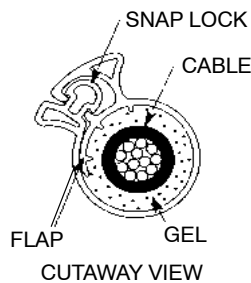

FIGURE 5
5. Center the connector in the sleeve then wrap the sleeve around the cable and connector. Start at one end. Compress the snap locks over the entire length of the sleeve. Ensure that flaps seat under snap locks as shown in Figure 5.